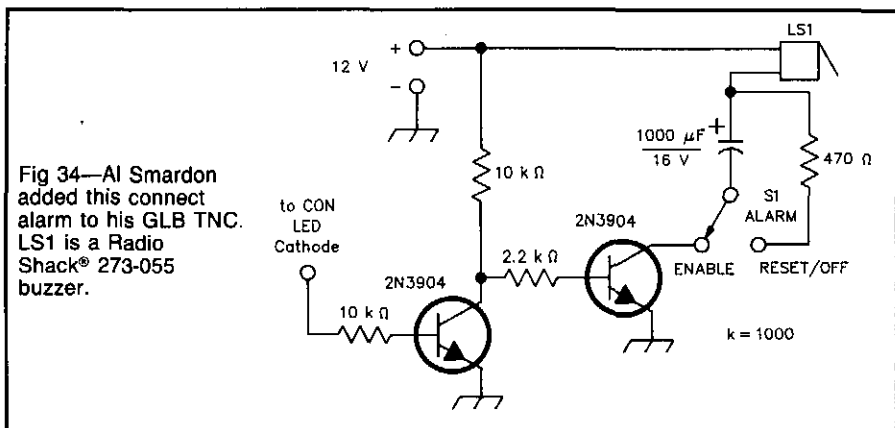

Fig 34—Al Smardon added this connect alarm to his GLB TNC. LS1 is a Radio Shack® 273-055 buzzer.
□ Missing a contact on packet by failing to see or hear a connect can be frustrating. To solve this problem on my GLB TNC, I added the circuit shown in Fig 34. When the CONNECT LED comes on, the buzzer